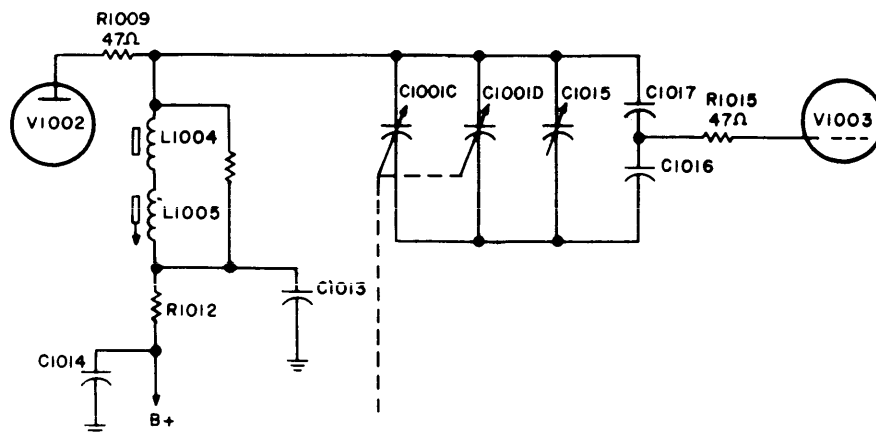

Figure 4-3. V1002 and V1003 Stages, A1001 Tuner Strip
a. INPUT CIRCUIT AND RF AMPLIFIER CHAIN. See figure 4-2. The input circuits and RF amplifier chain comprise ANT-CAL relay K1001; RF tuner strips A1001 through A1015 (corresponding to the eight receiver bands); RF amplifiers V1001, V1002, V1003, and V1004; and tuning capacitor C1001. Depending upon the position of relay K1001, alignment or antenna input signals within the range of 2 mc to 32 mc are extended through one of eight tuned RF circuits (A1001 through A1015), amplified by V1001, V1002, V1003, and V1004, and applied to mixer V1005. Turret contacts engage fixed chassis contacts to connect the required elements of amplifiers V1001 through V1004, RF tuner strips A1001 through A1015, and tuning capacitor C1001. Simplified schematic diagram figure 4-3 shows the circuit components between V1002 and V1003 in the BAND 1 position (RF tuner A1001 engaged); circuit configurations for RF tuner strips A1003 through A1015 and other sections of tuning capacitor C1001 are similar. C1016 and C1017 form a capacitive voltage divider that determines the drive and impedance presented to the following stage. C1001C and C1001D are the main tuning capacitors for this stage. R1012 and C1014 form a decoupling network. Swamping resistor R1011 adjusts the circuit Q for the required bandpass. R1009 and R1015 are parasitic suppressors. C1015 is the trimmer for this stage, and is adjusted at the high end of the tuning range. Bypass capacitor C1013 places the "bottom" of the tank at RF ground. L1004 is a fixed toroid coil. L1005 is a slug tuned coil adjusted at the low end of the tuning range.